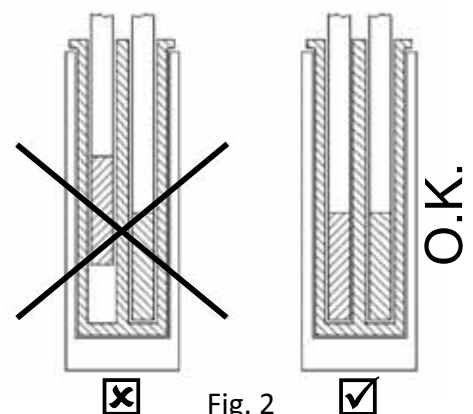
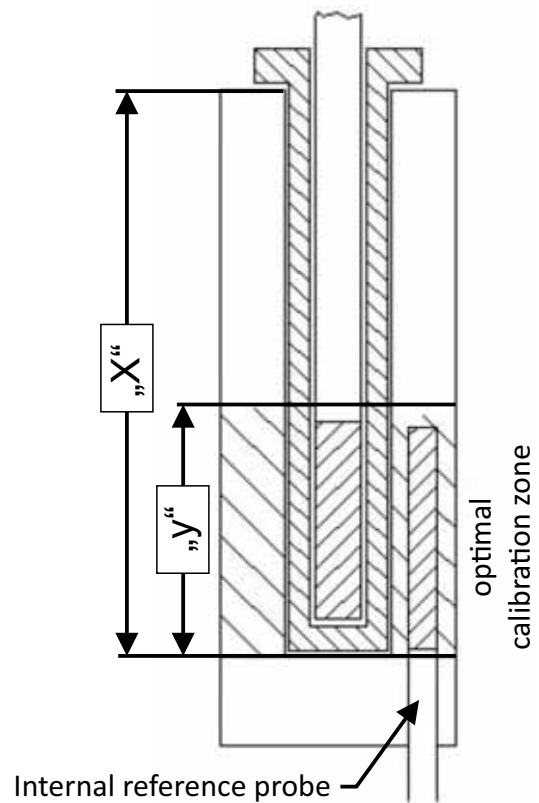

Fig. 2
Fig. 3
- Insert the probe as much down to the bottom of the block as possible. The sensitive element of the probe should be in the calibration zone (see Fig. 3 on next page).
- If you use an external reference probe, take care that the position of both probes is similar, at the same insertion depth (Fig. 2), and as close together as possible. The position of the internal reference sensor is shown in Fig. 3 on the next page.
Notes to Fig. 3:
The internal reference sensor is used for the reading and thermoregulation. It is placed directly in the metal block (see Fig. 3 in chapter 4).
ref. **b)**: Compare the values of unit under test with values shown on the display of the external reference thermometer. Insert both probes (unit under test and probe of reference thermometer) as much closed together as possible, with same insertion depth. See Fig. 3 in chapter 4 for the optimal calibration zone.
1. Switch on the instrument with the main switch (2) and wait for the end of the self-test procedure. Then the 2nd. line of the display shows „Stby“ (standby). Press any key to access the set point adjustment.
2. Insert the probe (your unit under test) into suitable holes of the equalizer block (refer to chapter 4 - Fig. 1, Fig. 2 and Fig. 3)